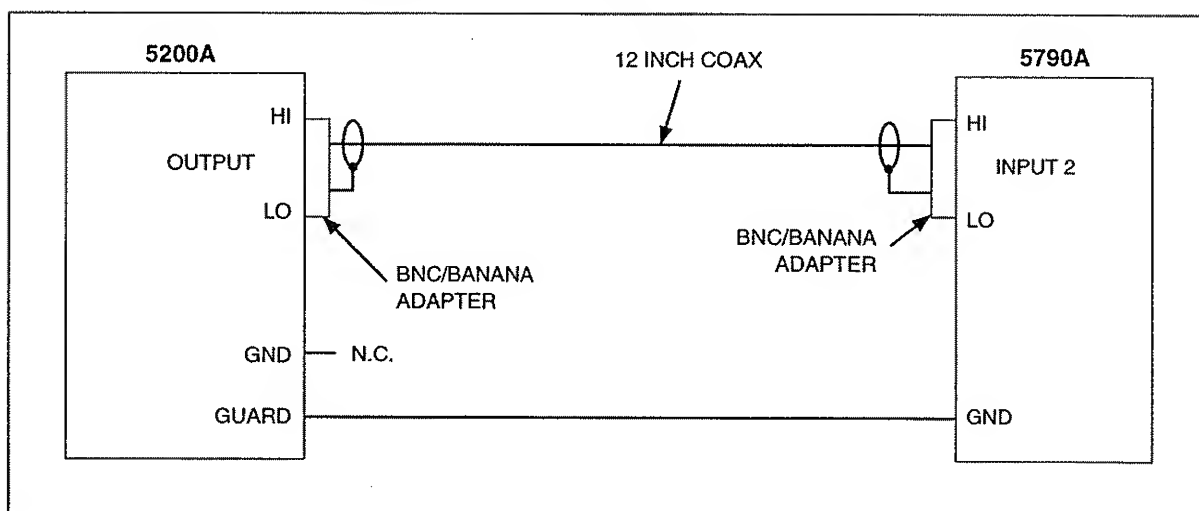

Figure F-3. 100 mV Output Accuracy Equipment Configuration
1. Connect the equipment as shown in Figure F-3.